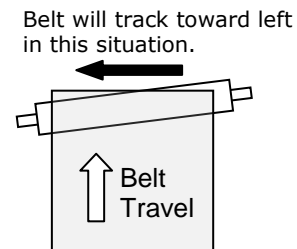

Figure 4.2 – Pulley Adjustment for Belt Tracking (Plan View)
- Prior to starting the conveyor, again ensure that all pulleys are square and level. Initially, avoid the situation shown in Figure 4.2.
- Review belt position at both pulleys. Track belt if necessary based on Figure 4.2.